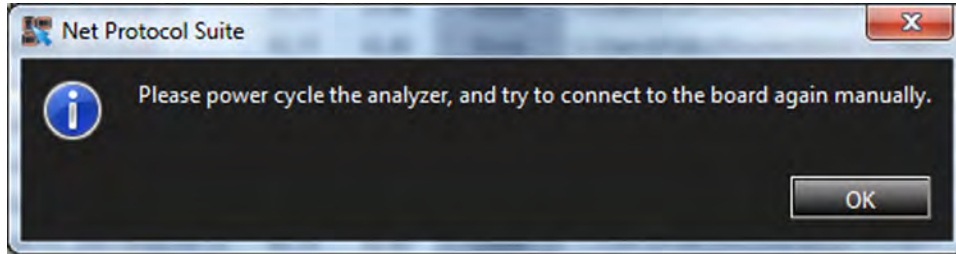

Figure 2.83: System Requesting Power Cycle
- Be sure to follow the on-screen prompts to complete the update process successfully. See Figure 2.83.